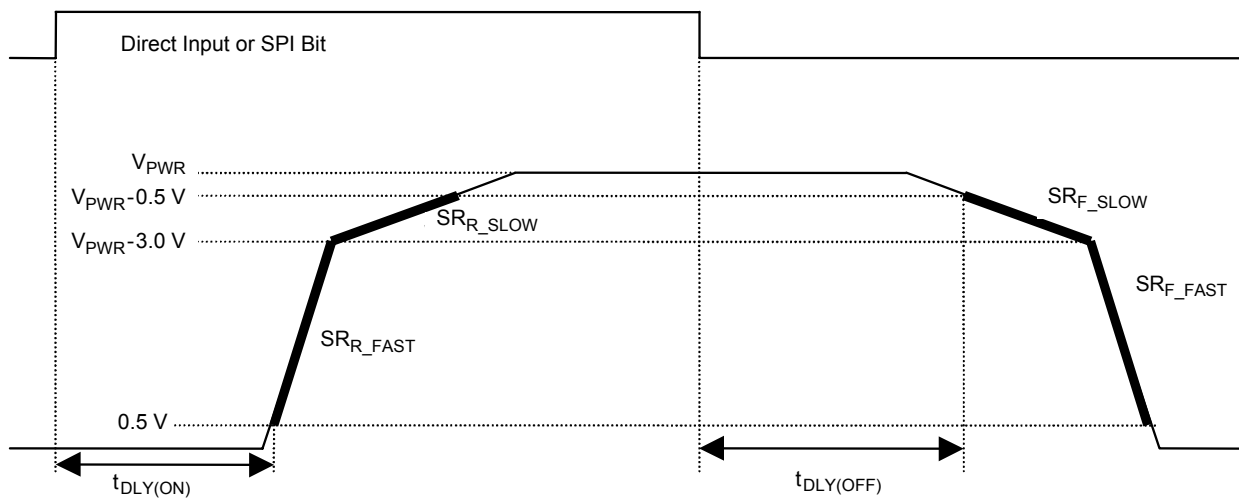

Figure 2. Output Slew Rates and Time Delays, High Side
27. High-side output rise and fall fast slew rates measured across a  $5.0\ \Omega$  resistive load at high-side output = 0.5 V to  $V_{PWR}-3.0\text{ V}$  (see Figure 2, page 18). These parameters are guaranteed by process monitoring.
28. High-side output rise and fall slow slew rates measured across a  $5.0\ \Omega$  resistive load at high-side output = 0.5 V to  $V_{PWR}-3.0\text{ V}$  (see Figure 2, page 18). These parameters are guaranteed by process monitoring.
29. High-side output turn-ON delay time measured from 50% of the rising IHS to 0.5 V of output OFF with  $R_L = 27\ \Omega$  resistive load (see Figure 2, page 18).
30. High-side output turn-OFF delay time measured from 50% of the falling IHS to  $V_{PWR}-2.0\text{ V}$  of the output OFF with  $R_L = 27\ \Omega$  resistive load (see Figure 2, page 18).